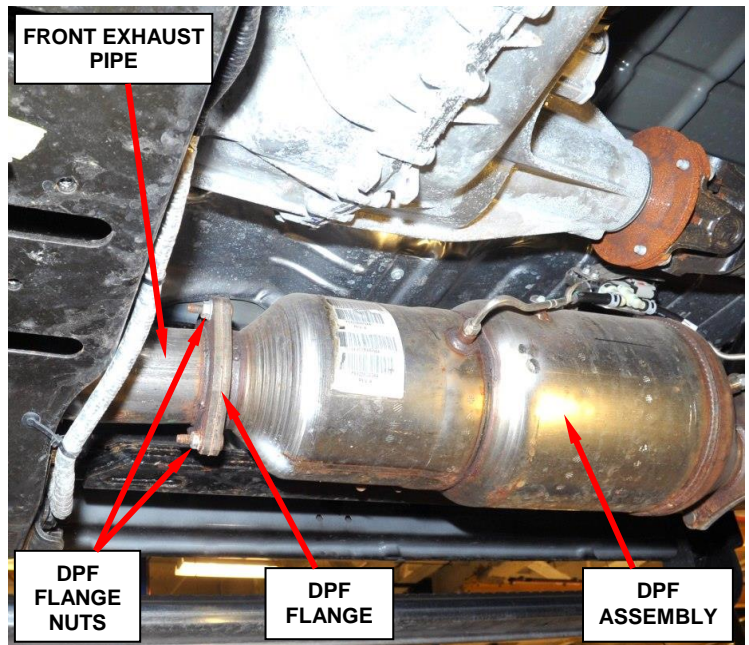

Figure 8 – Front Exhaust Pipe-to-DPF Flange Nuts
- d. Remove and save the three front exhaust pipe-to-Diesel Particulate Filter (DPF) flange nuts (Figure 8).